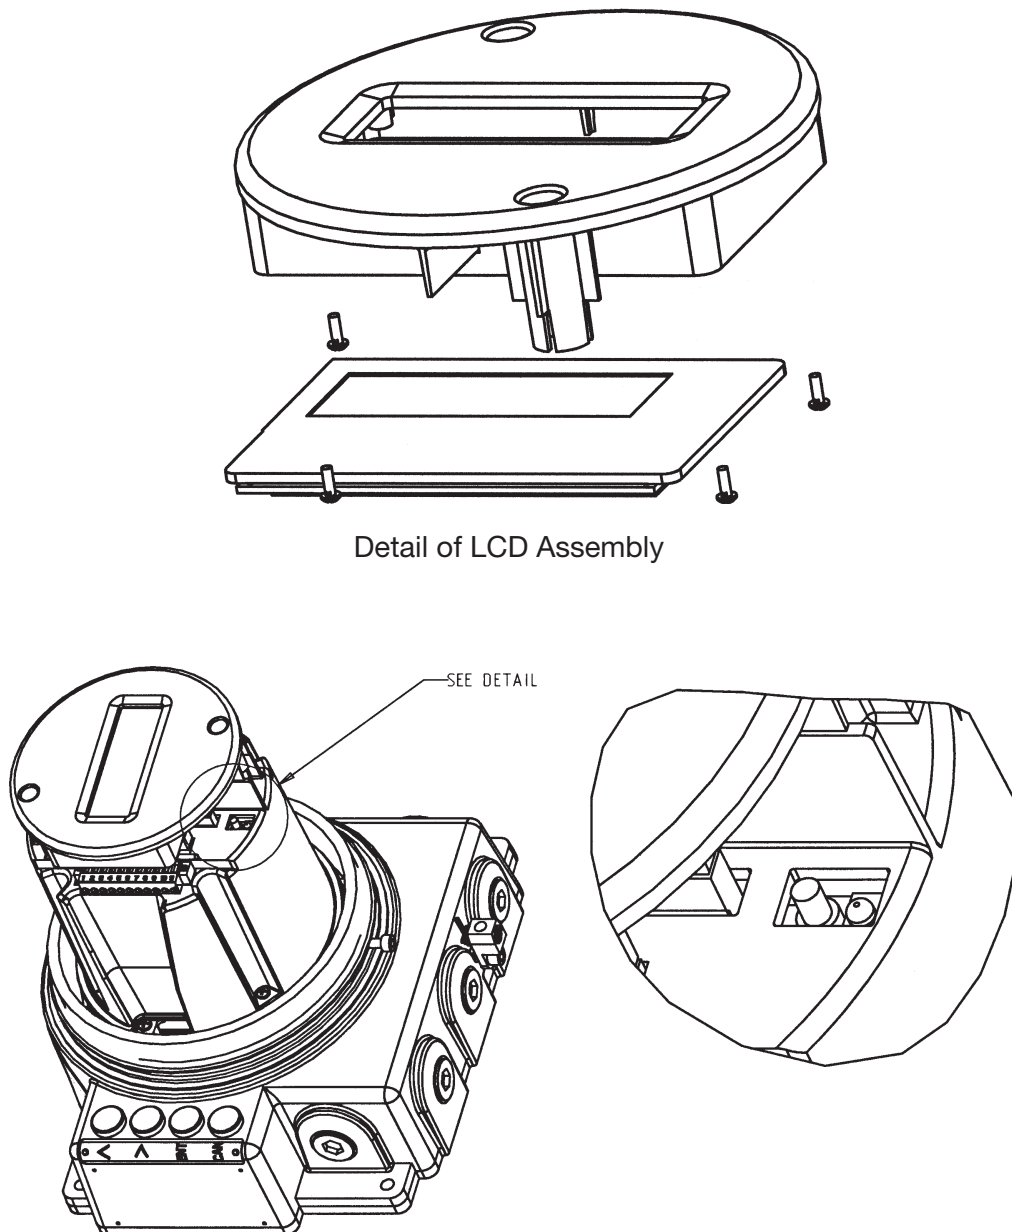

Figure 7.3.1: Location of LED, Zero Button and Optional LCD
The NexGen transmitter is approved as explosion-proof (flameproof), and is available with an optional LCD, as shown in Figure 7.3.1. The 4 x 20 digit four line display indicates all process measurements and any alarm warnings.
1. Press and hold the ZERO button until the LED remains on continuously. Figure 7.3.1 shows the location of the ZERO button and LED in the transducer wiring compartment.